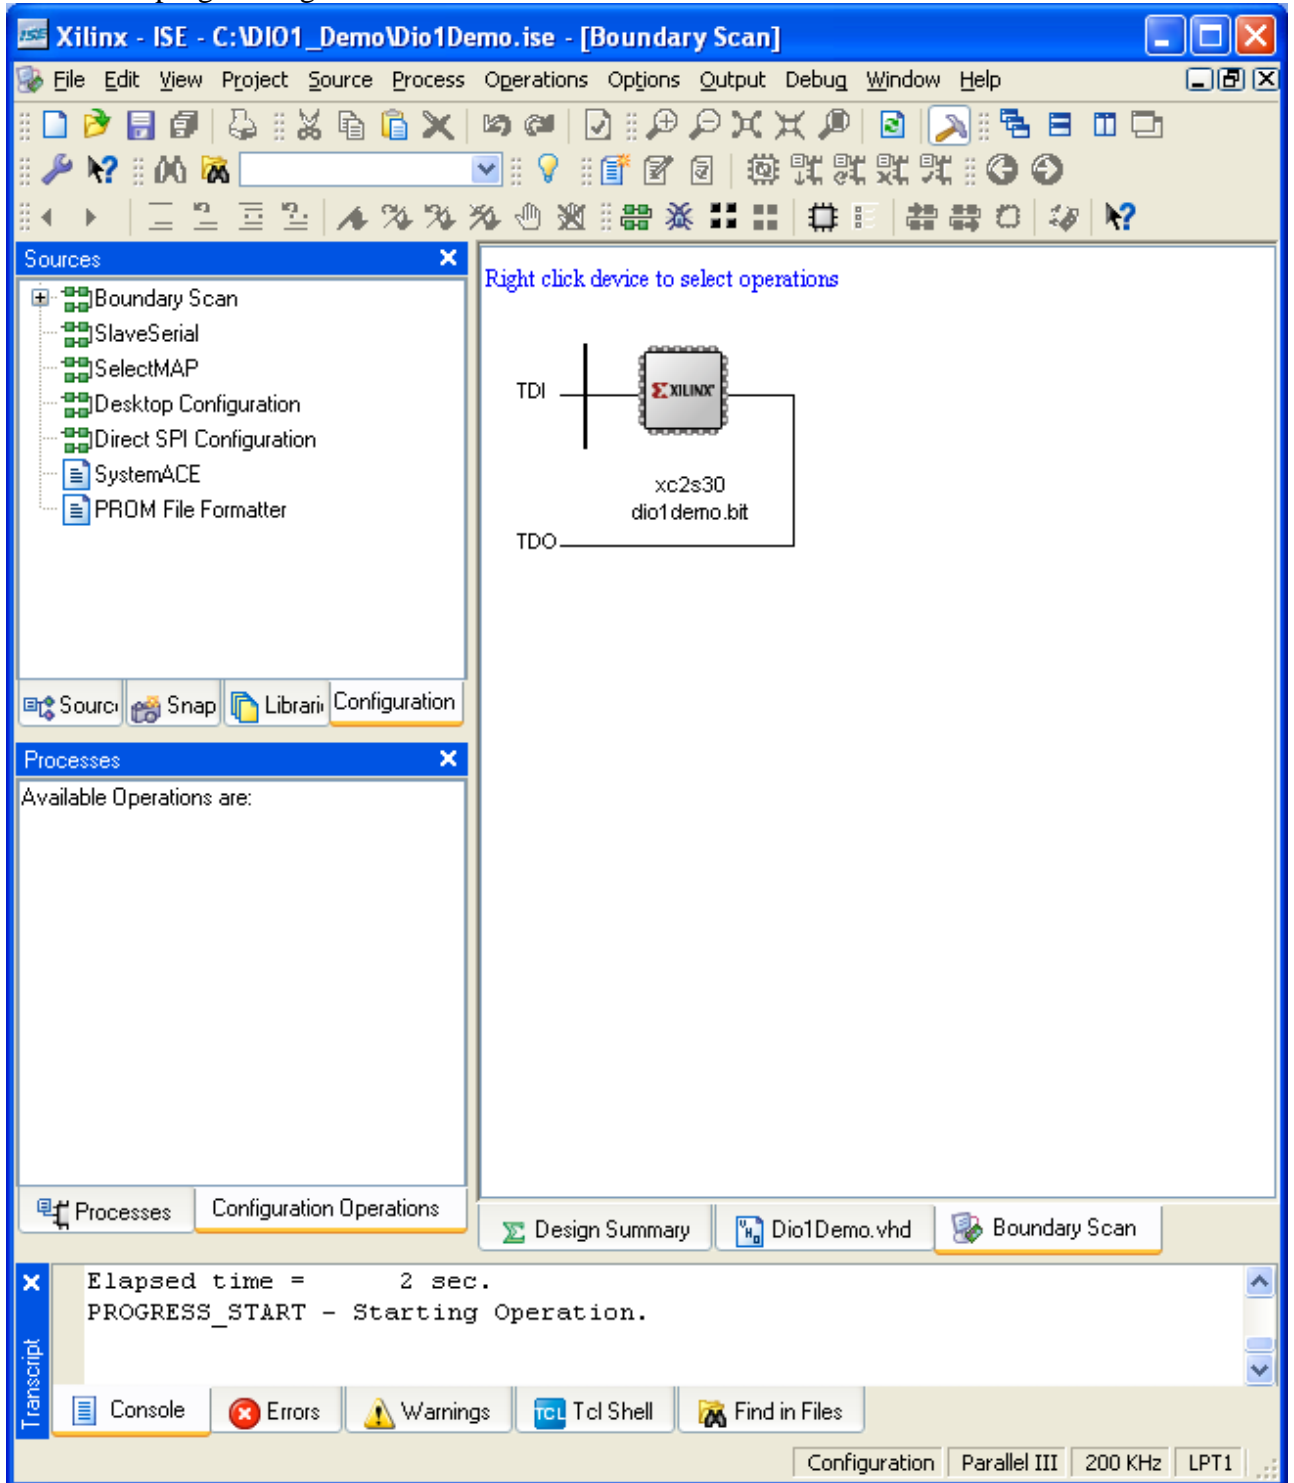

Figure 4: Programming page.
*If you are prompted to do so, choose the Configure devices using Boundary Scan bullet and select “Automatically connect a cable and identify a Boundary Scan chain”. You will then be asked to assign a new configuration file, open “dio1demo.bit”. If all goes well, you should wind up with a page such as shown in Figure 4. You may need to click on the boundary scan tab at the bottom of the main window to get to the right display.*